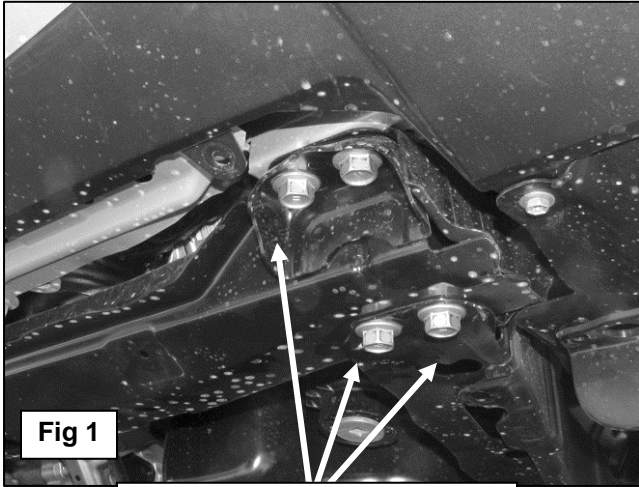

Fig 1
- Locate the (4) factory hex bolts securing each end of the crossmember to the frame, **(Figure 1)**. **NOTE:** Only install one Mounting Bracket at a time and only remove the (3) factory hex bolts required for Bracket installation, **(Figure 1)**. Select the driver side Frame Mounting Bracket, **(Figure 2A)**. Bolt the Bracket in position using the factory hex bolts, **(Figure 2B)**. Snug the hardware but do not tighten at this time. Repeat this **Step** for the passenger side Mounting Bracket installation.